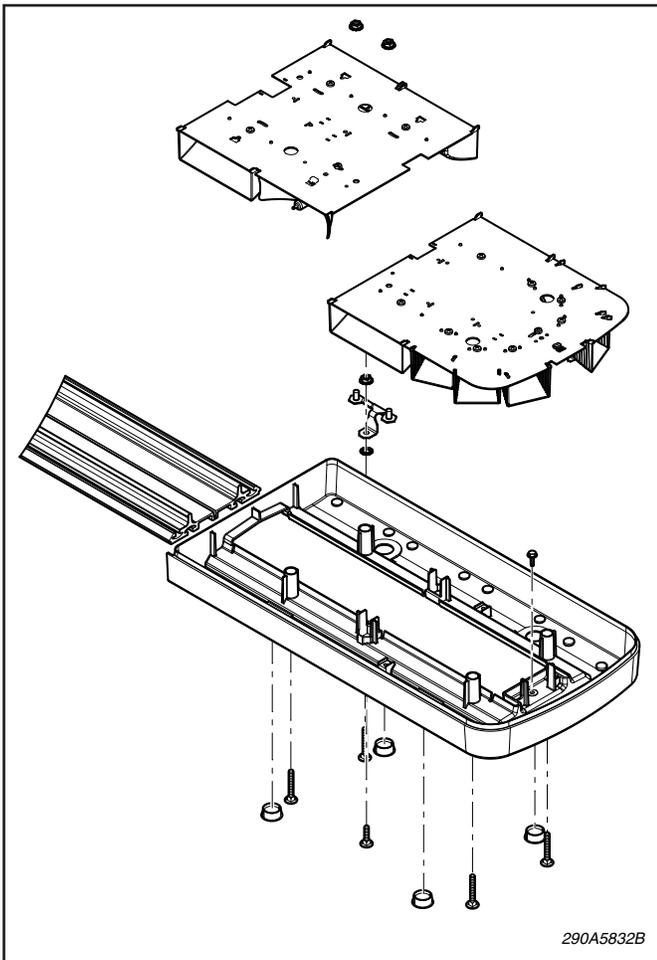

Figure 6.
I. Base Replacement (see figure 6).